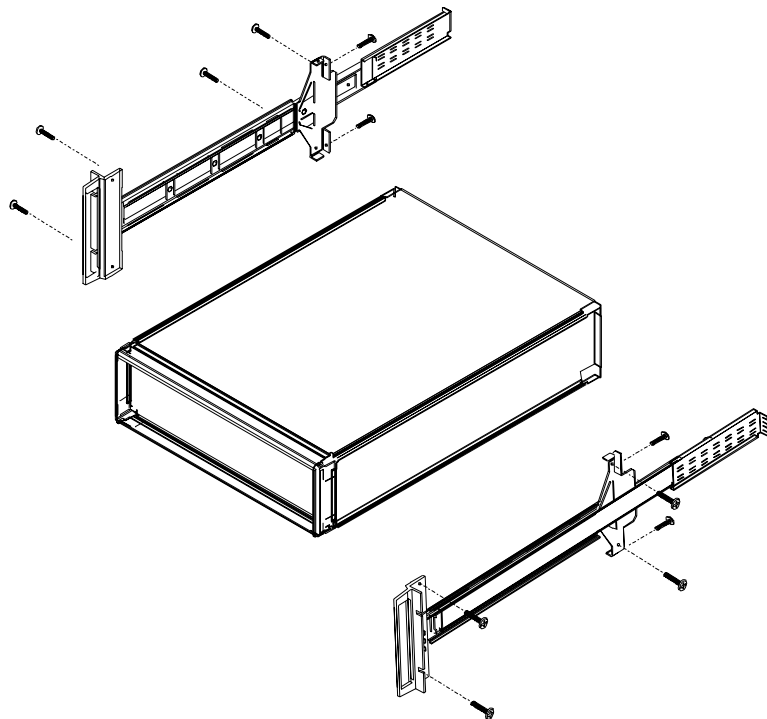

Figure 2-3. Rack Mounting Hardware Installation
- Step 4** Place the left side inner slide assembly onto the instrument case with the handle towards the front of the instrument (Figure 2-3).